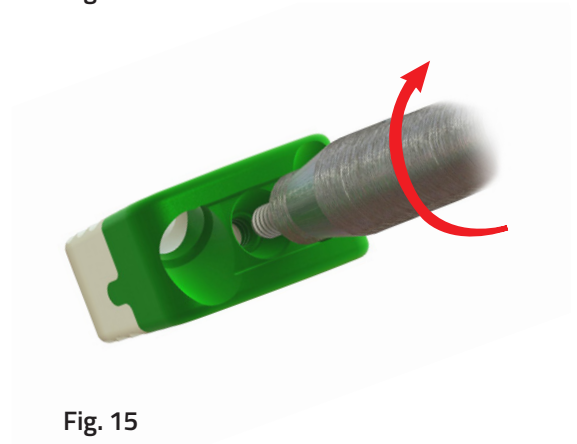

Fig. 15
3. Remove the interbody spacer by engaging the Implant Inserter with the threaded hole of the interbody spacer and turning the center knob clockwise until finger tight (**Fig. 15**). Then pull out the interbody spacer. If necessary, distract the vertebrae inferior and superior to the interbody spacer for removal.